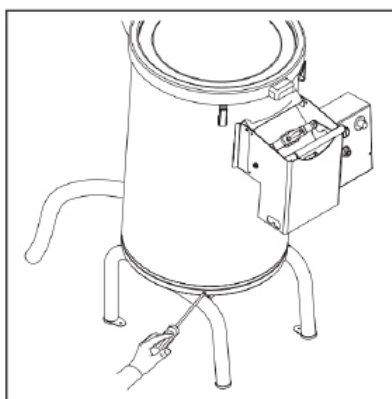

Fig. 9.
- Place the machine on a flat surface and unscrew the screws that secure the roller to the base (Fig. 9).